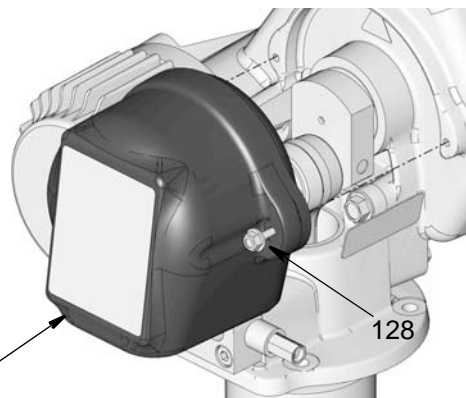

FIG. 5
2. Loosen bolts (128) and remove cover (126) from Dyna-Star pump (FIG. 5).